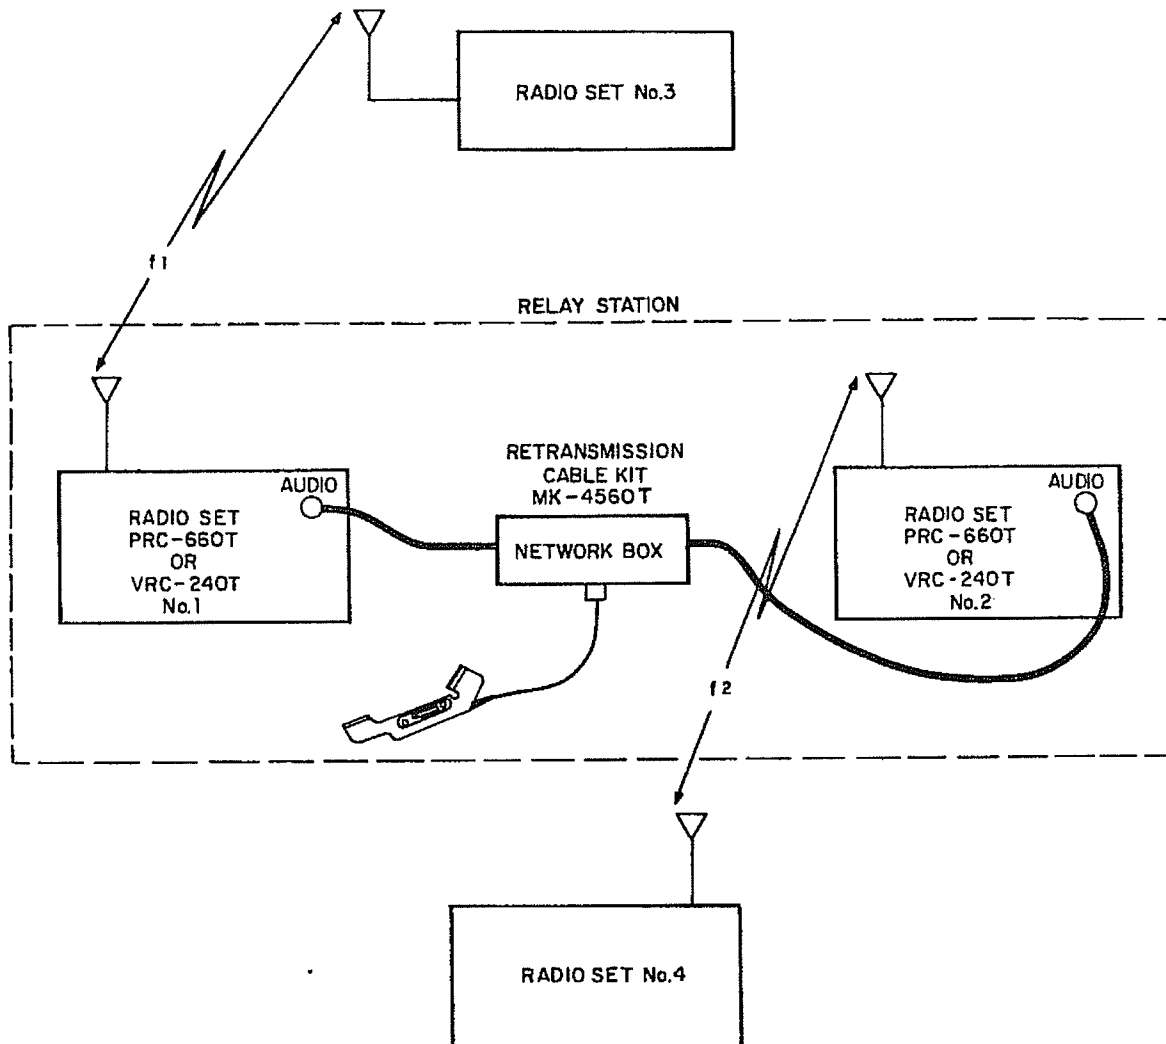

Figure 3-4. Retransmission Interconnection
- (1) Place the two PRC-660's on a level surface, and space them as far apart as practical; this is the relay station.
- (2) Connect the MK-4560T between the AUDIO connectors of the two PRC-660's.
a. Retransmission (fig. 3-4) The following procedure describes the use of two identical radio sets (PRC-660T) as a relay station for retransmission purposes. However, the station can also consist of two VRC-240T's, a PRC-660T and a VRC-240T, and a PRC-660T or VRC-240T with any one of the series VRC-12 radio sets, the PRC-25 or the PRC-77. Thus, an operator equipped with a PRC-660T can establish contact with a second operator on a PRC-77, even though their frequencies and modulation methods are different, by using a retransmission relay station.